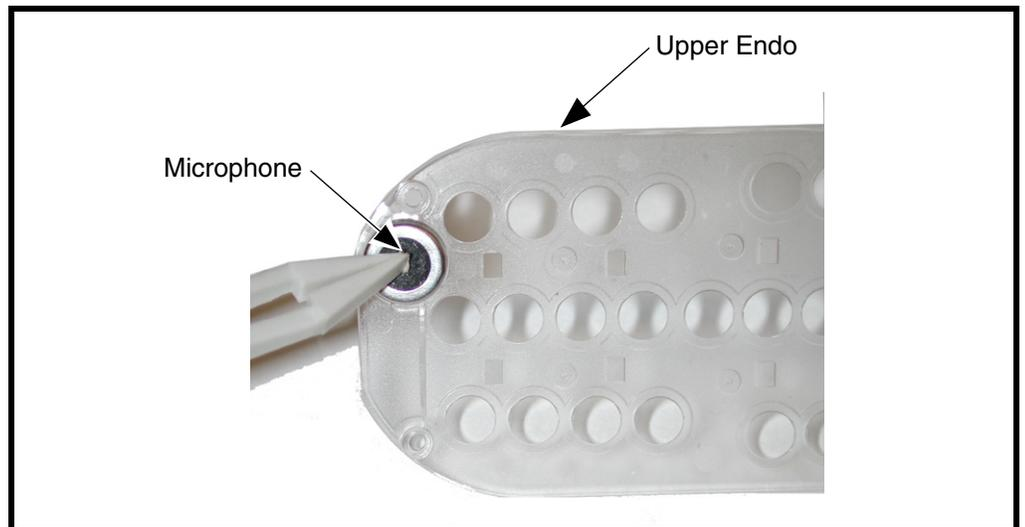

Figure 14. Removing the Microphone
2. Using the plastic tweezers, carefully push the microphone assembly from its socket on the transceiver board. The microphone assembly should come out of its socket easily. See Figure 14.